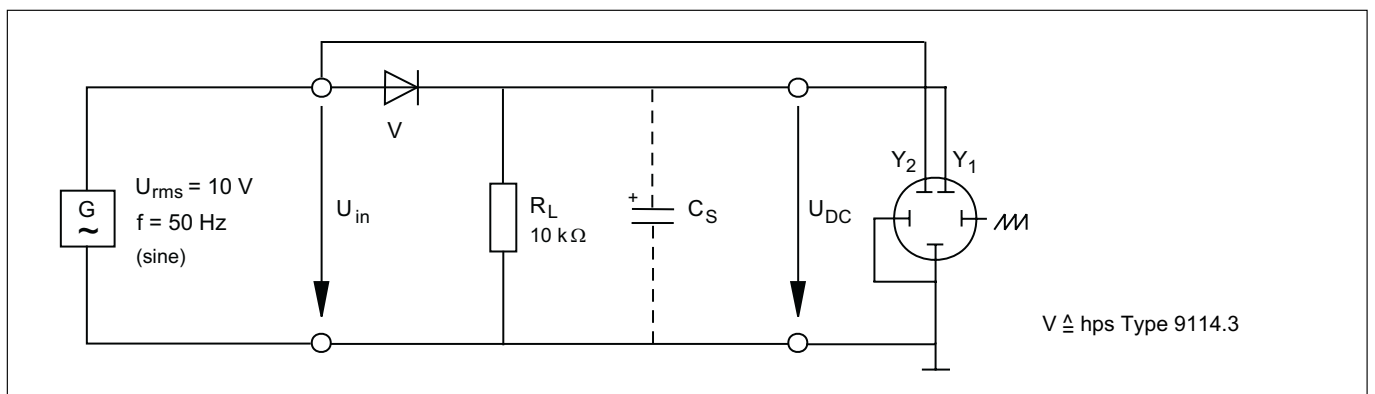

Fig. 1.3.2.1
- Set up the circuit according to Fig. 1.3.2.1 (without smoothing capacitor). The input voltage U_{in} and the DC voltage U_{DC} are to be measured with a multimeter and the ratio U_{DC} to U_{in} to be calculated.
- Then the input voltage U_{in} and the DC voltage U_{DC} are to be recorded with the oscilloscope and their curve shape to be entered into the diagram of Fig. 1.3.2.2.